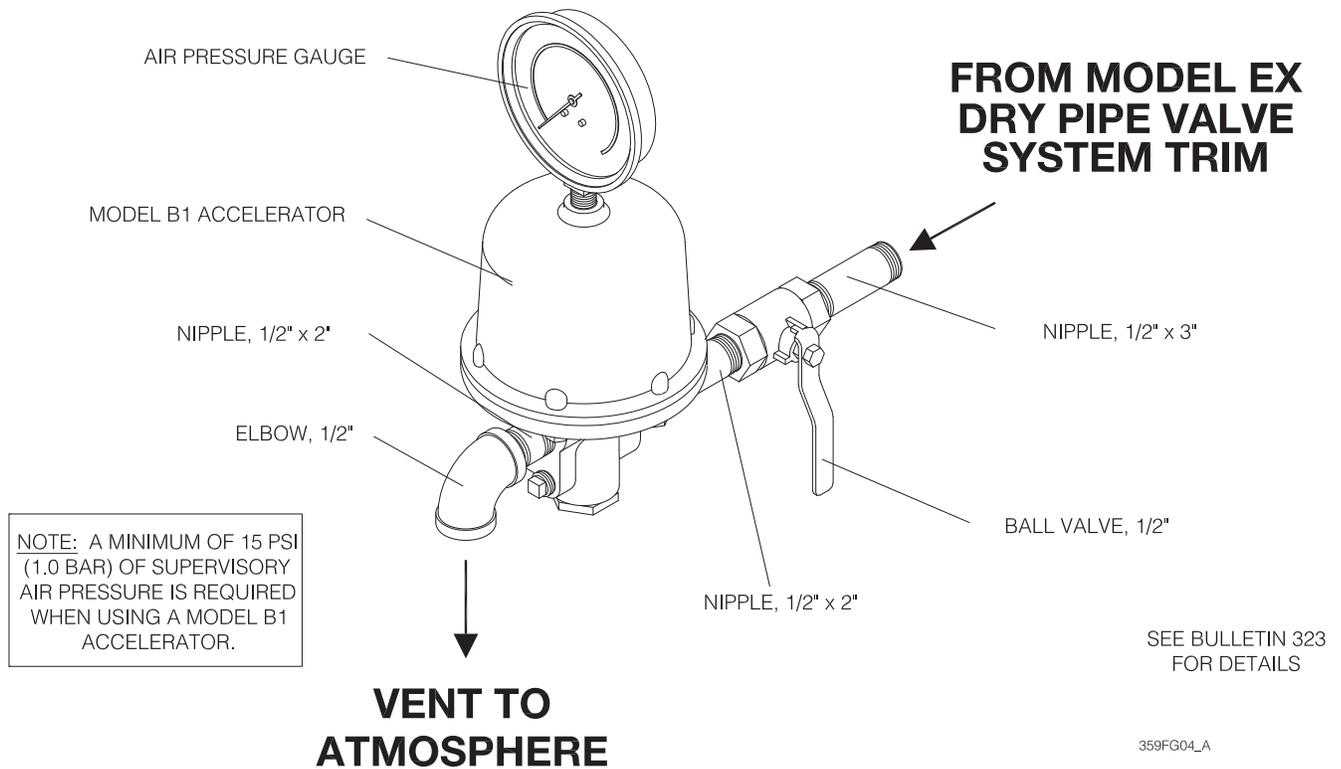
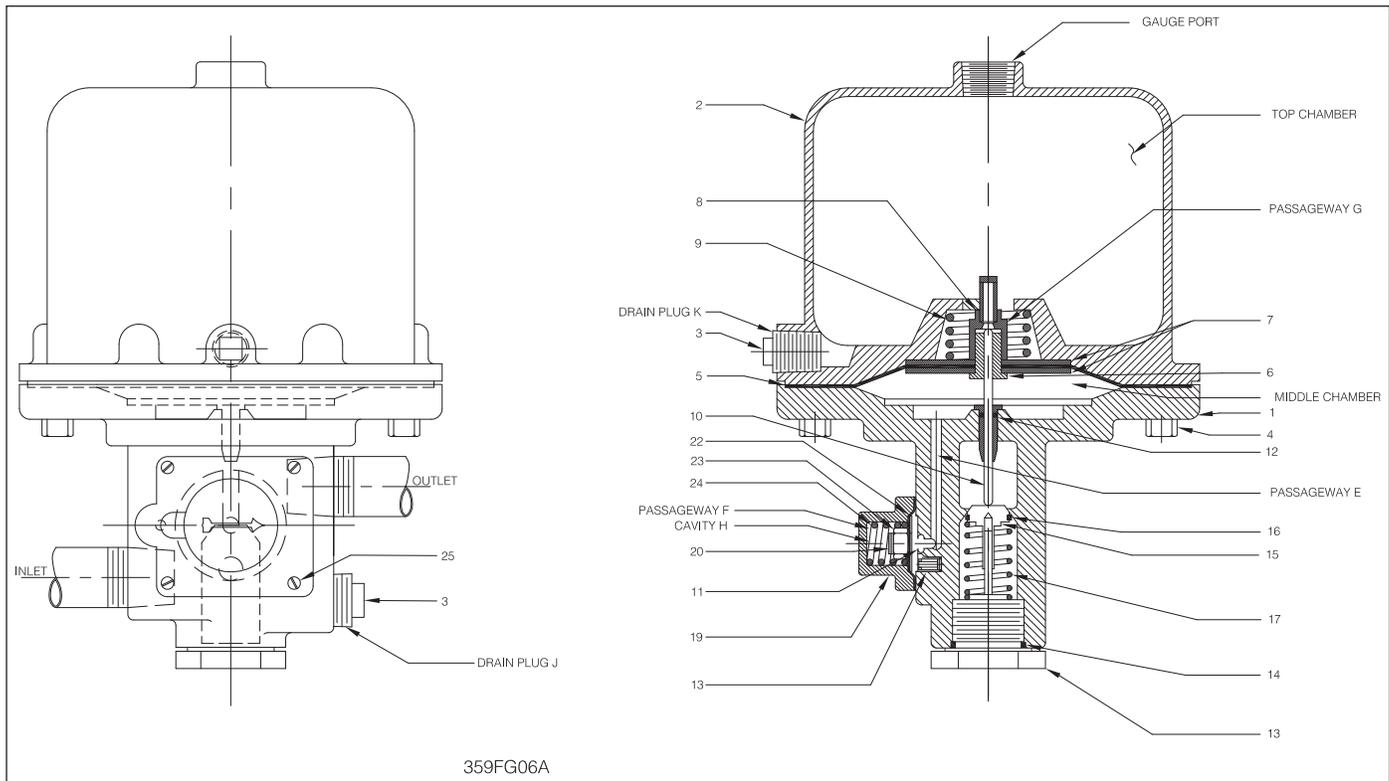

Fig. 4
Fig. 6
The Model B1 Accelerator is a normally closed valve with ½” NPT ports, and it is sensitive to a rate of air pressure change. This device retains normal dry system air pressure in the top chamber, see Fig. 6, even though the system air pressure may be dropping, such as when one or more sprinklers open. The resulting differential force created across the Diaphragm assembly (#5 thru #8, Fig. 6) forces the poppet (#15, Fig. 6) open, allowing system air pressure to be vented to atmosphere causing the Model EX Dry Pipe Valve to operate. Simultaneously, pressurized air passes through the accelerator and closes the integral Accelo-Check (#11 & #20 thru #24, Fig. 6) by pressurizing cavity H and preventing water and waterborne debris from entering the internal restriction area in passageway G. This increases the reliability of the device and reduces the maintenance which would otherwise be required to clean the accelerator after each operation.
Fig. 6 depicts the accelerator in the closed position while being pressurized. The accelerator is filled by air from the dry pipe system entering through the accelerator inlet, passing through the filter assembly and passageway E to the middle chamber. The air pressure lifts the diaphragm assembly off the pushrod (#10, Fig. 6) opening passageway G. The air then completely fills the top chamber to the system pressure. When filled, the diaphragm assembly resets on the pushrod end and closes passageway G, ex-
1. Close the 1/2" ball Valve Fig. 4
4. Remove the Body Drain Plug J, Fig. 6.
6. Remove the Accelo-Check Body (19), and gently lift the Accelo-Check Diaphragm Assembly (22) to verify venting of the middle chamber. Carefully reinstall these parts.
7. Partially open the 1/2" ball Valve Fig. 4, gently purging any water which may be in the trim lines. Close the 1/2" ball Valve Fig. 4 and replace the Body Drain Plug J, Fig. 2.
8. Pressurize the accelerator by opening the 1/2" ball Valve Fig. 4. The top chamber pressure should equal the system pressure.
3. Verify that the 1/2" ball Valve Fig. 4 is fully open.
5. Check for leakage at the 1/2" elbow (Fig. 6).
1. Close the 1/2" ball Valve Fig. 4.